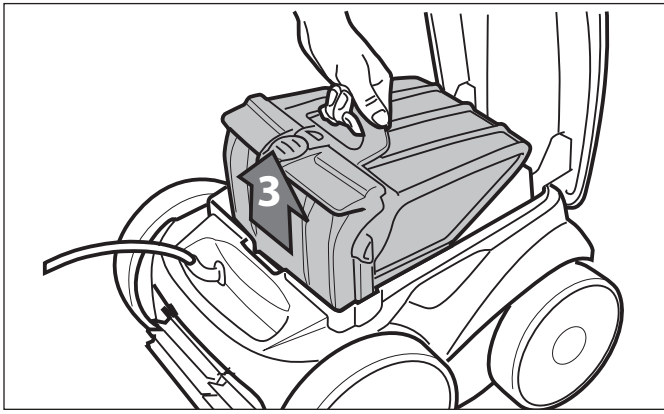

Figure 21. Remove Filter Assembly
6. Remove the filter assembly from the body (3), as shown in Figure 21.